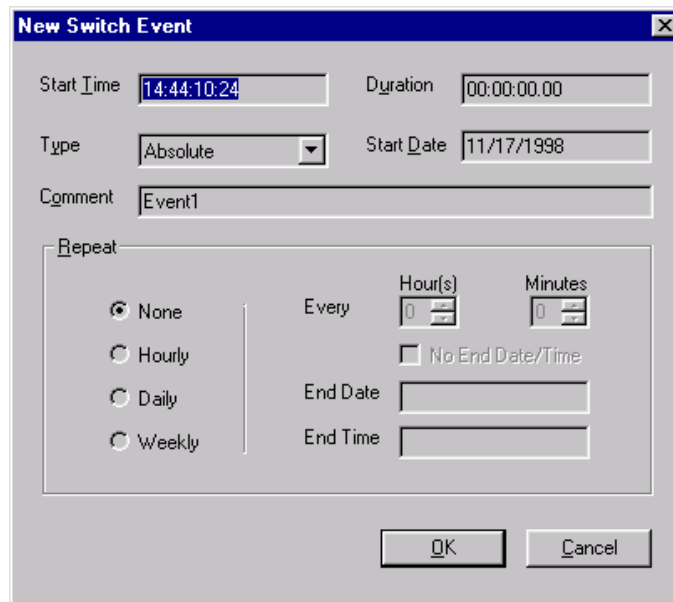

Figure 140. New Switch Event dialog box
2. Choose **File| New Event | Switch** and the New Switch Event dialog box appears, as shown in Figure 140.